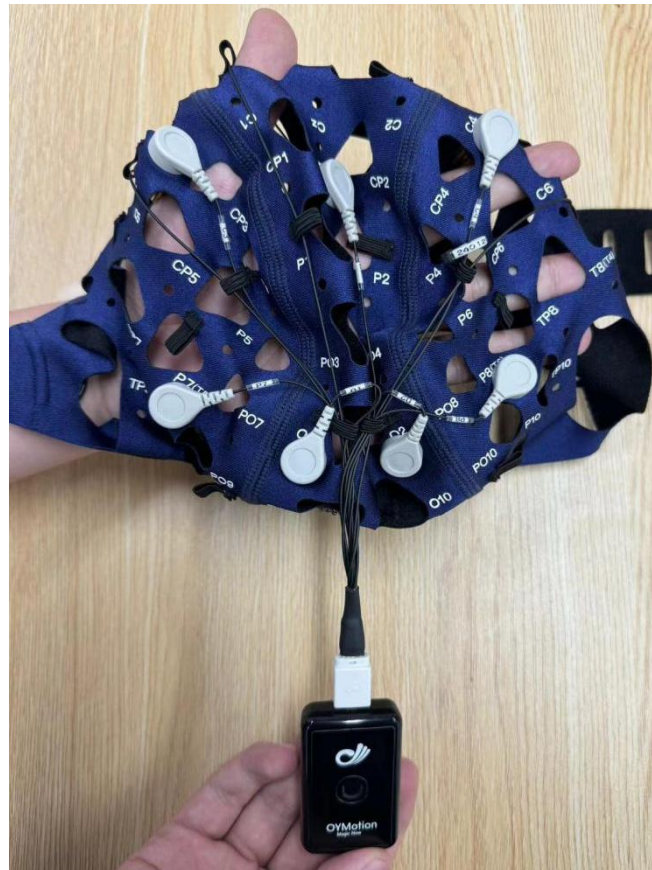

Figure 3.1-1
1. Remove the host, insert the mini HDMI plug on the electrode cap into the mini HDMI interface of the amplifier, as shown in Figure 3.1-1, and then bond the amplifier's Velcro with the Velcro on the electrode cap.